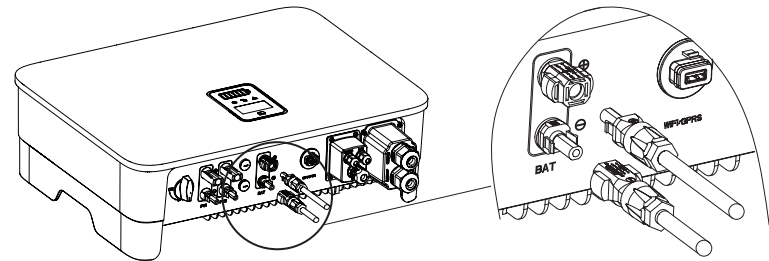

Figure 4-26
- ① Before making the battery connector, please make sure the polarity of the cable is correct.
- ② Use a multimeter to measure the voltage of the battery pack and make sure the voltage is within the inverter limitation and the polarity is correct.
- ⑥ Insert the positive and negative connector into the inverter battery terminals respectively, and a “click” sound represents the assembly in place, as shown in Figure 4-26: